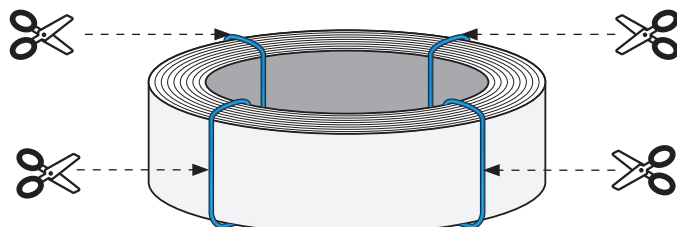
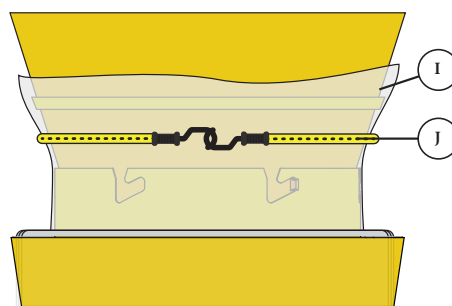

FIG. 13a
FIG. 13b
Cut off and discard the twist ties on the Cassette (I) [FIG 13a]. Pull the center of the Cassette up to the hopper and secure using the Bungee Cord (J) [FIG 13b]